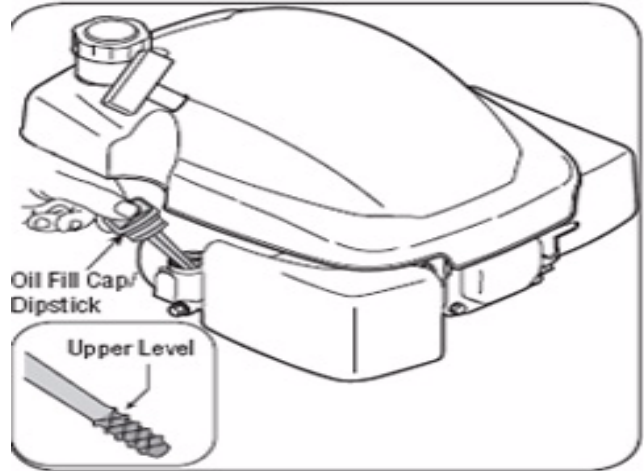

Figure 2.4
3. Re-insert the dipstick **without** threading it in to get the oil level reading. See Figure 2.4.